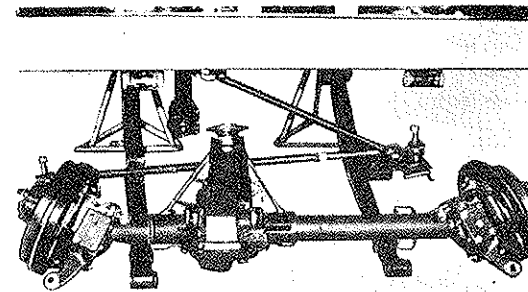

Fig. 5-50 Front Axle Assembly Removal
- (11) Lower the jack. Remove the U bolt nuts and pull the U bolts upward to remove them.
- (12) When all of the steps above have been followed, the front axle assembly assumes such condition, as shown in Fig. 5-50. Roll the axle assembly toward the front from under the vehicle.